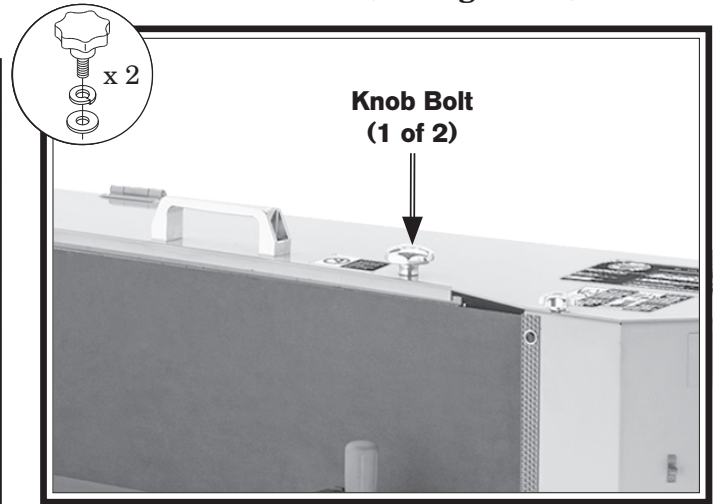

Figure 19. Belt guard lock knob installed.
7. Close belt guard and secure with (2) M10-1.5 x 15 knob bolts, 10mm lock washers, and 10mm flat washers (see **Figure 19**).